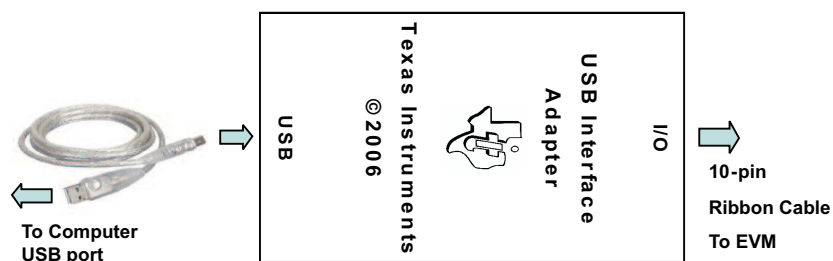

Figure 1. Connections of the HPA172 Kit
- (A) Set the Power Supply 1 for 5 V $\pm$ 100 mVdc, 2 $\pm$ 0.1-A current limit and then turn off supply.
- (B) Connect the output of Power Supply 1 in series with a current meter (multimeter) to J1 (DC+, DC-).
- (C) Connect a voltage meter across J1 (DC+, DC-).
- (D) Connect the Load 2 in series with a current meter (multimeter) to J2 (BAT+, BAT-). Make sure a voltage meter is connected across J2 (BAT+, BAT-). Turn on the Load 2. Use the constant voltage mode. Set the output voltage to 2.5 V.
- (E) Turn off Load 2.
- (F) Connect J5 to HPA172 kit by 10-pin ribbon cable. Connect the USB port of the HPA172 kit to the USB port of the computer. The connections are shown in Figure 1.